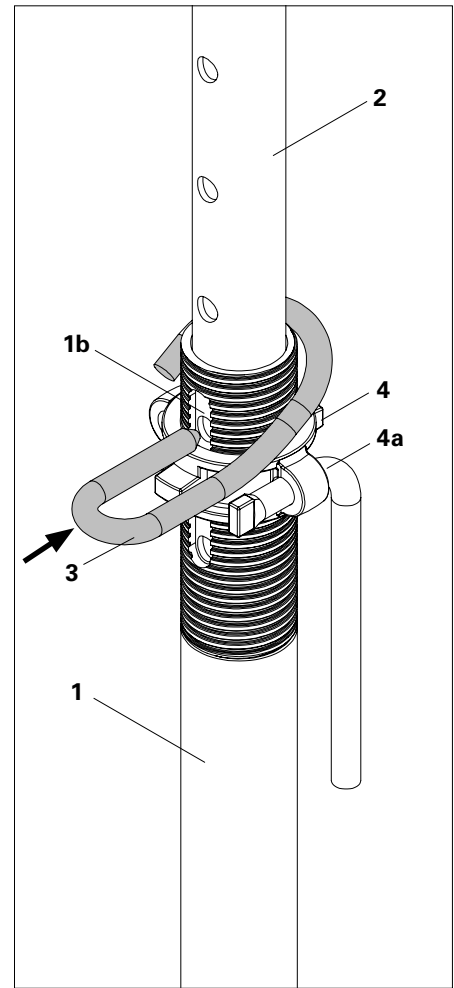

Fig. A1.01a
3. Insert G-hook (3) into the visible hole and slide through the inner tube. (Fig. A1.01a)
4. Turn adjusting nut (4) with grip (4a) to the required size. (Fig. A1.01a)